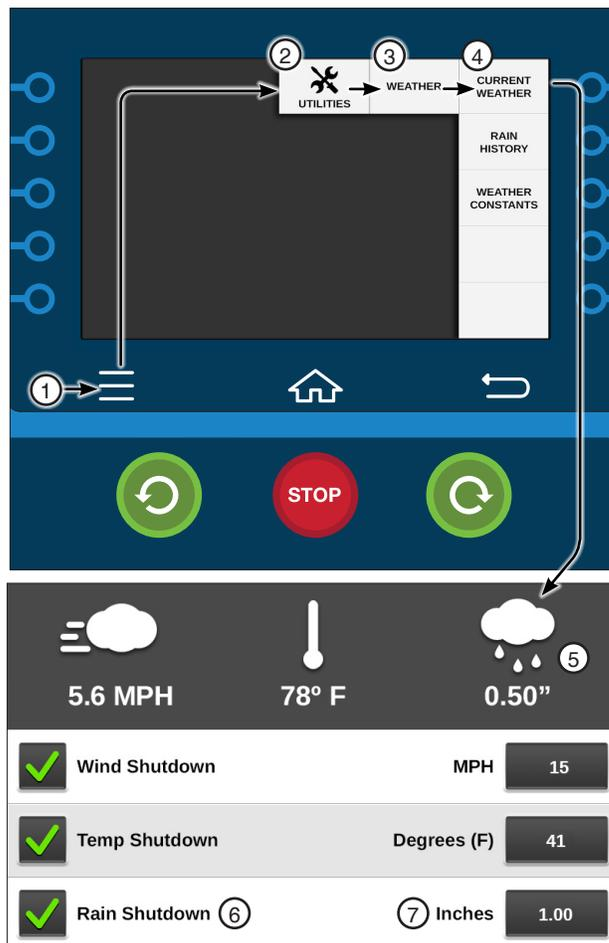

Figure 75-1 1. Menu 2. Utilities 3. Weather 4. Current Weather 5. Rain Measurement 6. Rain Shutdown Checkbox 7. Rain Shutdown Limit
1. Push **Menu**, **Utilities**, **Weather** and **Current Weather** to display the Current Weather screen. Refer to Figure 75-1.
Check the **Rain Shutdown** checkbox to enable the rain shutdown function and uncheck the checkbox to disable the rain shutdown function. Refer to Figure 75-1.
3. Using the numeric keypad, enter the number of inches. Example: 1, 5, 0 for 1.50. Refer to Figure 75-1.